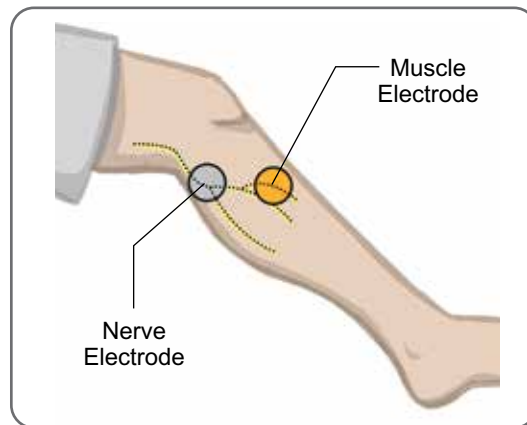

Figure 8-3: Positioning the Electrodes on the Leg
8. Position one electrode (the nerve electrode) over the common peroneal nerve, distal and slightly posterior to the fibular head. See Figure 8-3.